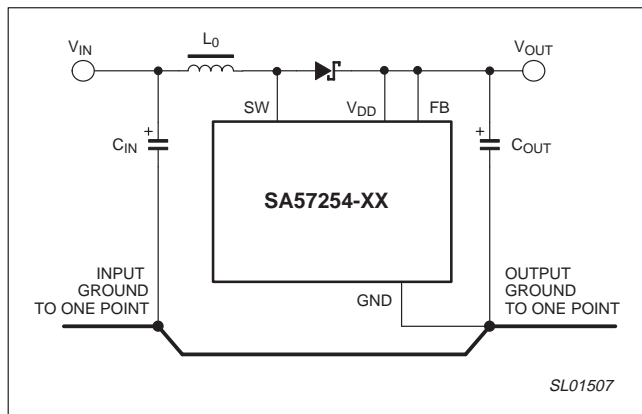

Figure 30. Grounding trace for converter.
The input and output capacitors are the only source or sink of the high frequency currents found in a switching power supply. All connections to the switching power supply from the outside circuits should be made to the input or output capacitor terminals (+ and -). Internally, the layout should adhere to a "one-point" grounding system, as shown in Figure 30.
- Strictly adhere to the one-point wiring practices shown in Figure 30.